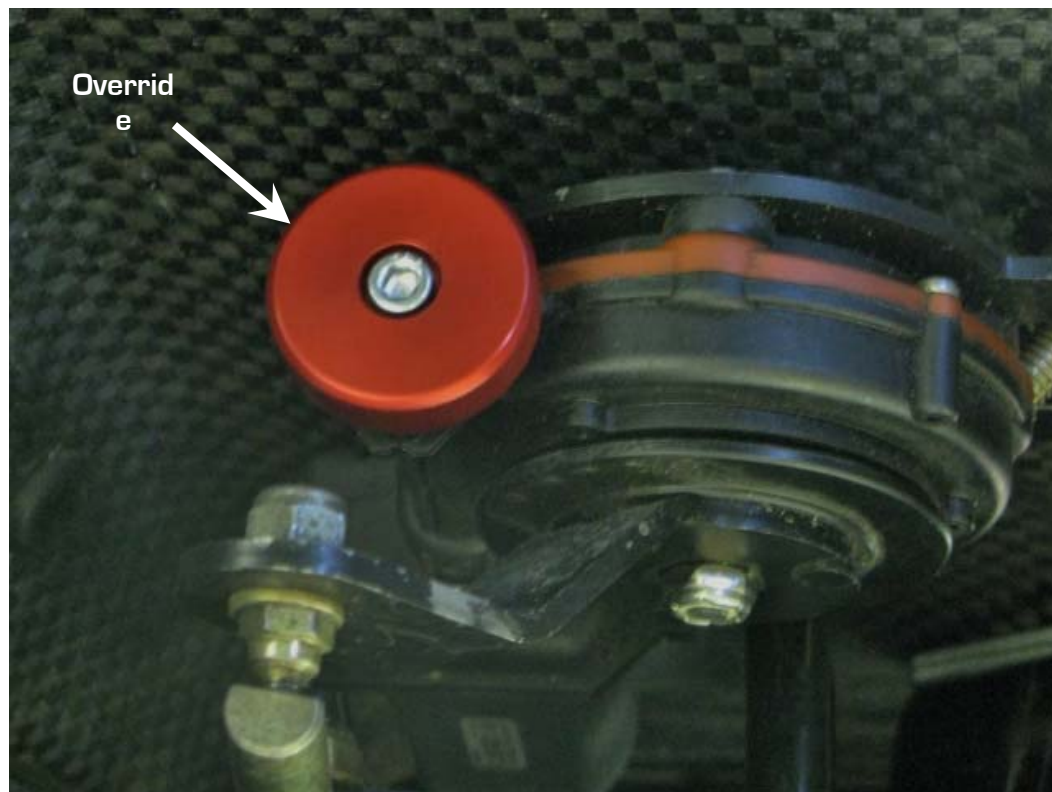

Figure 12
7. Install the linkage to connect the actuator to the bellcrank. Install with the supplied washers and locknut. If the linkage does not reach the bellcrank, reposition the headlight door until they can be assembled. There is a red manual override knob shown in Figure 12 that can be turned to move the pitman arm to reach the bellcrank. **NOTE: Do not attempt to move the pitman arms on the actuators by hand to attach the linkage as this could cause permanent damage to the actuators.**